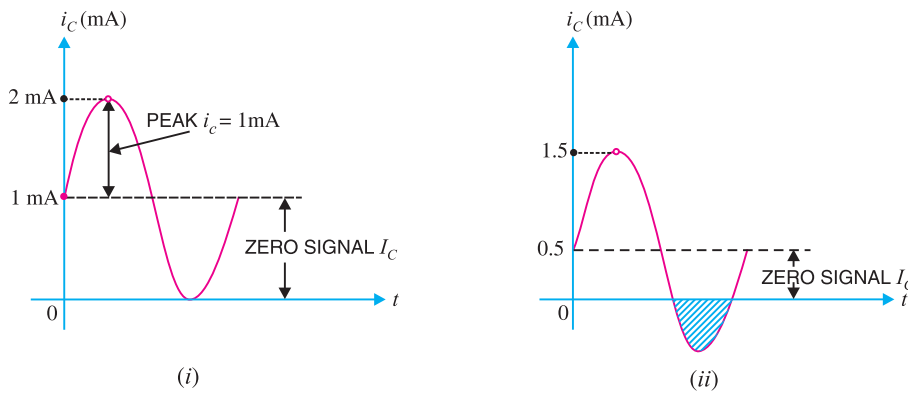

Fig. 9.2
**Illustration.** Suppose a signal applied to the base of a transistor gives a peak collector current of 1mA. Then zero signal collector current must be atleast equal to 1mA so that even during the peak of negative half-cycle of the signal, there is no cut off as shown in Fig. 9.2 (i).
If zero signal collector current is less, say 0.5 mA as shown in Fig. 9.2 (ii), then some part (shaded portion) of the negative half-cycle of signal will be cut off in the output.